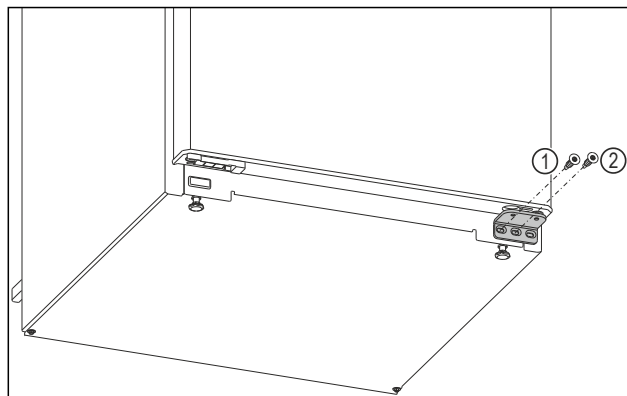

Fig. 4
- Unscrew the inner screw on the lower swap bearing block with a Torx 20 screwdriver. Fig. 4 (1)
- Unscrew the middle screw on the lower swap bearing block with a Torx 20 screwdriver. Fig. 4 (2)